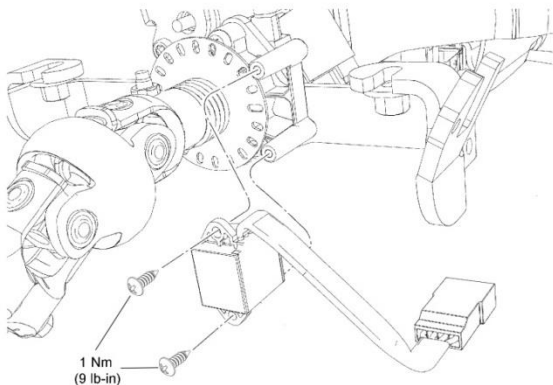

Figure 35. Steering Sensor Installation.
2. Locate the Steering Sensor and (2) #8 x .50 Pan Head Sheet Metal Screws
3. Install the Sensor as shown in Figure 35.